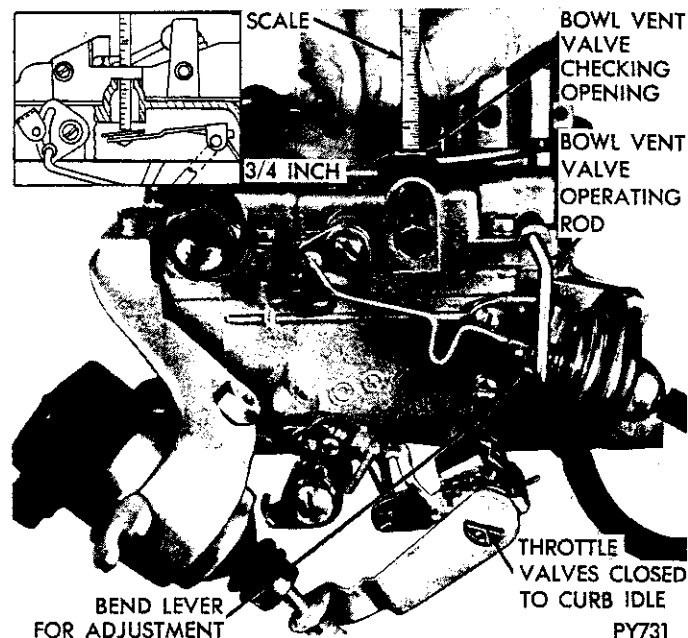

Fig. 22—Checking Bowl Vent Valve Opening
- (1) Using Tool T109-43, remove bowl vent valve checking hole plug in air horn.
- (2) With throttle valves at closed curb idle position, insert a narrow ruler down through hole. Allow ruler to rest lightly on top of valve. The reading should be $\frac{3}{4}$ inch from top of valve to top of air horn casting at opening. (Fig. 22.)
- (3) If an adjustment is necessary, bend bowl vent valve operating lever, until correct valve opening has been obtained.
- (4) Install new plug and rap lightly to seat, using a hammer.